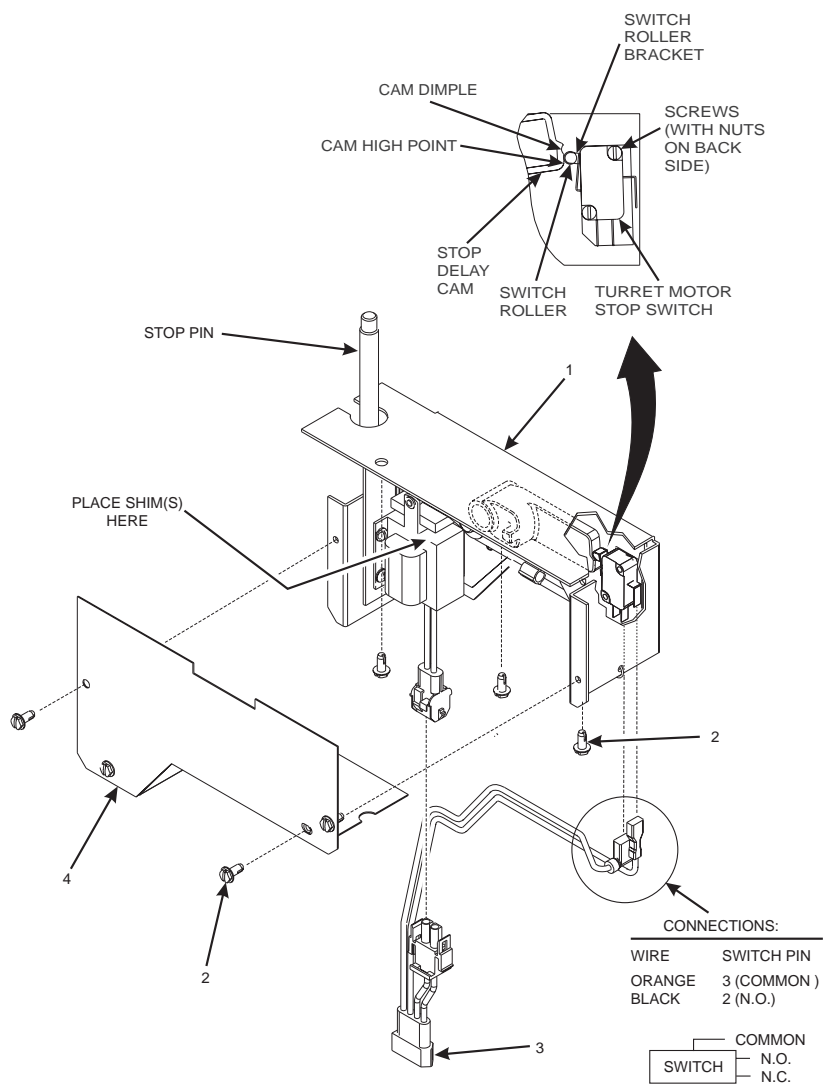

Figure 4-7. Stop Pin Adjustment
2. See figure 4-7. Remove the solenoid cover plate screws (2) and the cover plate (4).